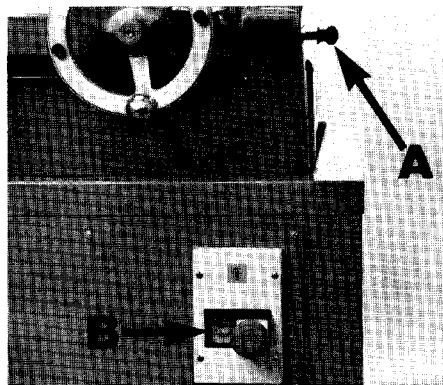

Figure 10
2.4 Lift slightly from skid. Balance machine by turning cross feed handwheel. (Loosen locking thumb screw, A, Fig. 10, page 4)
To turn the spindle motor on, depress "start" button located on front of cabinet. (B, Fig. 10) This also starts the lubricating system oil pump. After 1 minute, the oil level should rise to the mid-point of the sight glass in the column cap of the machine. This shows that the machine is ready for operation.
Achieve manual cross feed by loosening the cross feed travel locking thumb screw (A, Fig. 10) on the right side of the base under the table 1 turn, and operating the cross feed handwheel.